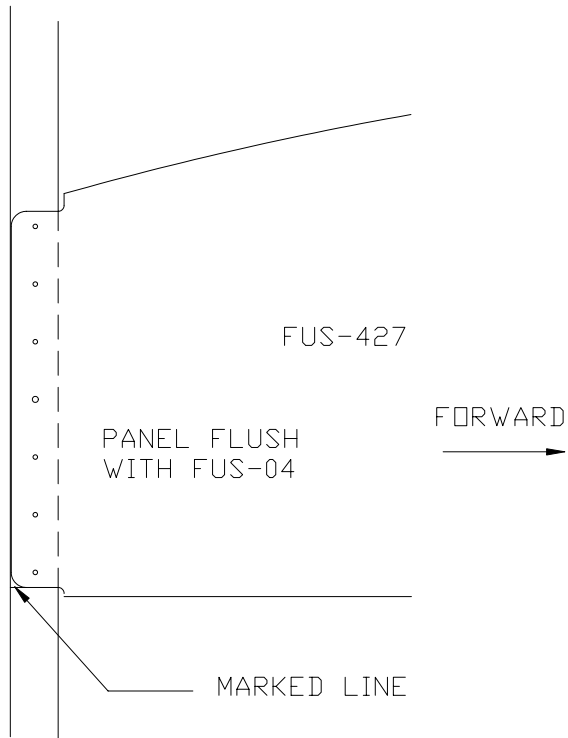

Figure 9.18.2
- 2) Clamp the FUS-427 Instrument Panel between the Uprights so the bottom flange on the panel is even with the lines made. Figure 9.18.2.